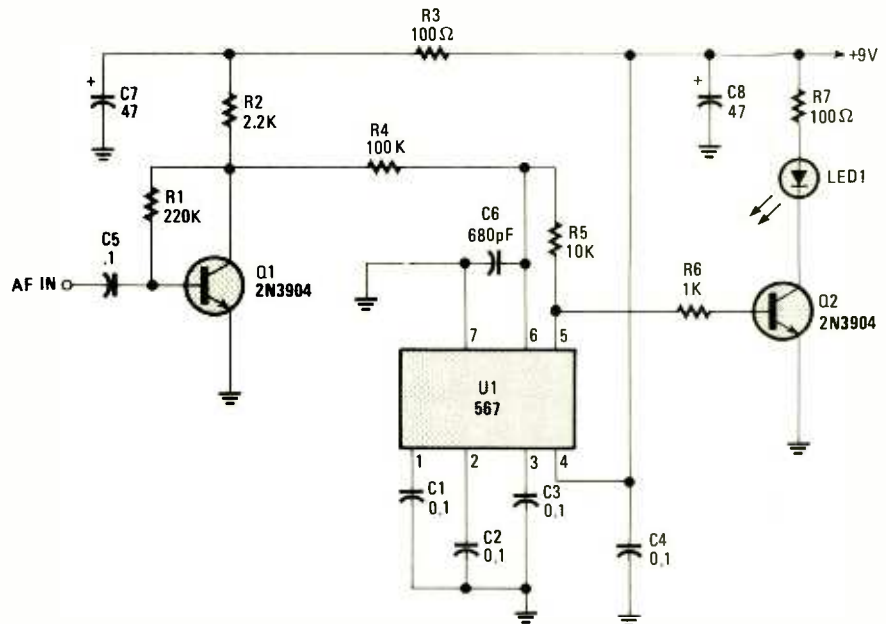

Fig. 4. This circuit produces an effect similar to frequency modulation (FM) by varying the voltage at pin 6 of the PLL using an audio signal.
The circuit in Fig. 4 produces an effect similar to frequency modulation (FM) by varying the voltage at pin 6 of the PLL using an audio signal. That works fine as long as the audio level at the collector of Q1 remains below 2 volts peak-to-